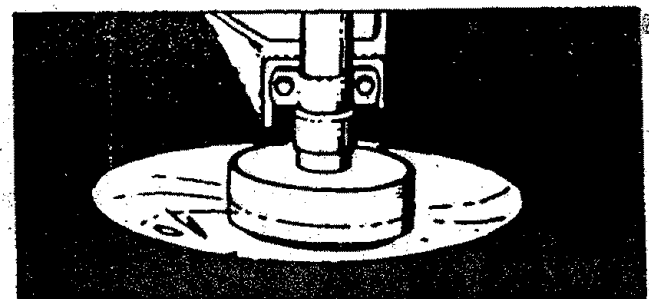

Figure 19
### 4. SWEEPING — Figure 19
- Hold the Trimmer Head as shown in Figure 19. Press the Lock Tab and turn Cover counterclockwise.